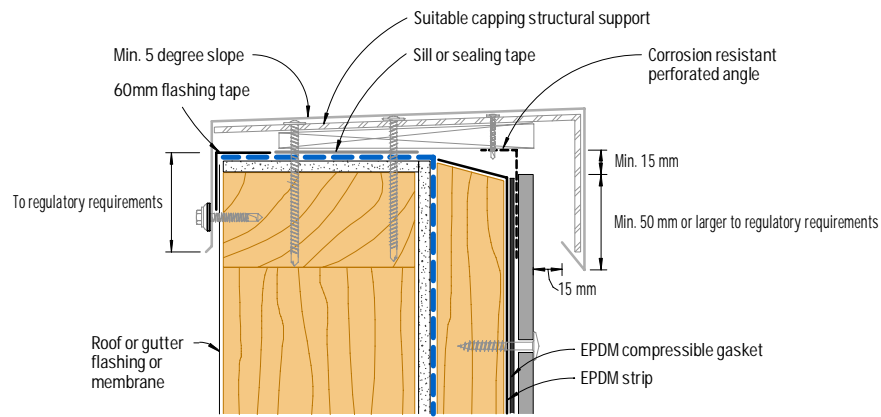

Figure 36: Capping - Detail 1
- 4) Capping shall be designed and engineered accordingly to provide adequate allowance for ventilation as shown in Figures 36 & 37.